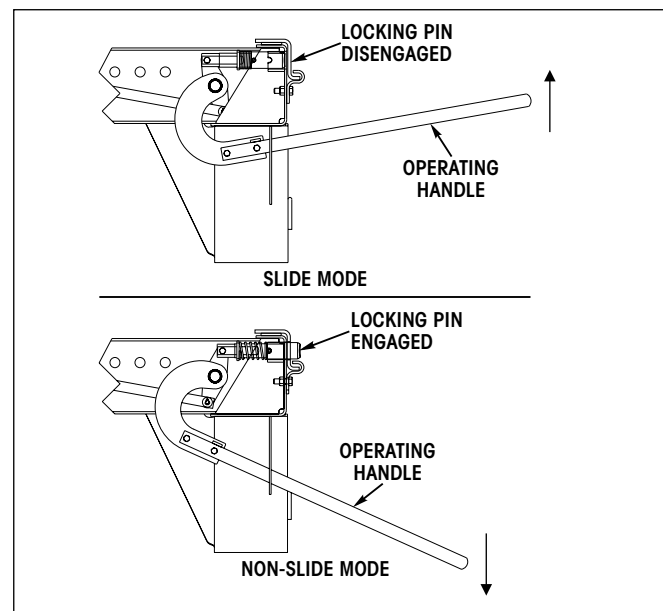

Figure 34. Locking pin position
- Locate the slider box operating handle. The handle is located on the driver side at the front of the slider box. To release the pins, raise the operating handle and lock in the "up" position. Inspect all four pins for disengagement (pins must be flush with, or just below, the box side rail) (Figure 34).
7. Lower the operating handle and lock in the “down” position to engage the pins. Inspect pins, making sure pin engagement (chamfered end projects through body rail) occurs at all four locations (Figure 34).